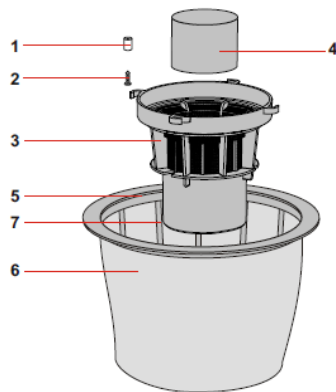

Figure 2
5. Slide off the carbon brush connector from the motor terminal. See Figure 2